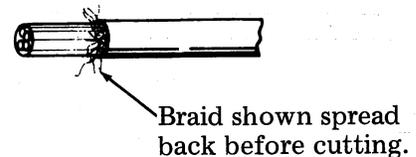

Fig. 27
- ③ Spread remaining braid back toward plastic shield and cut off braid with cutting pliers to within about 1/8 inch (not critical) of the plastic outer shield. See Fig. 27.